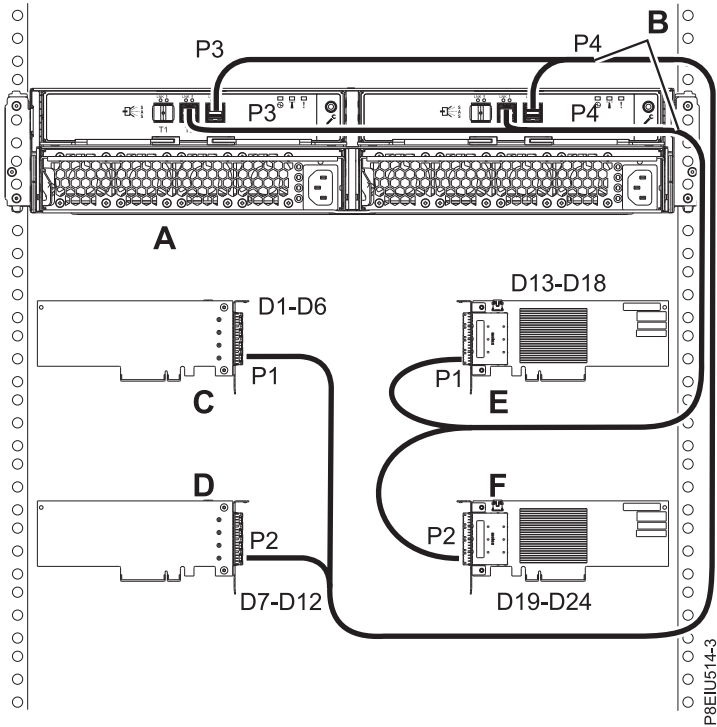

Figure 20. Mode 4 connection of one ESLL or ESLS storage enclosure by using X12 cables to four independent FC EJ0J or FC EJ0M SAS adapters
- Complete a mode 4 connection of one enclosure (A) by using X12 cables (B) to four independent FC EJ0J or FC EJ0M SAS adapters, as shown in Figure 20 on page 21, and then continue with "Connecting cables, power cords, and installing covers" on page 22.